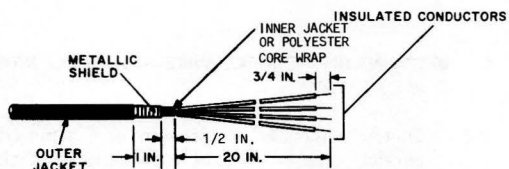
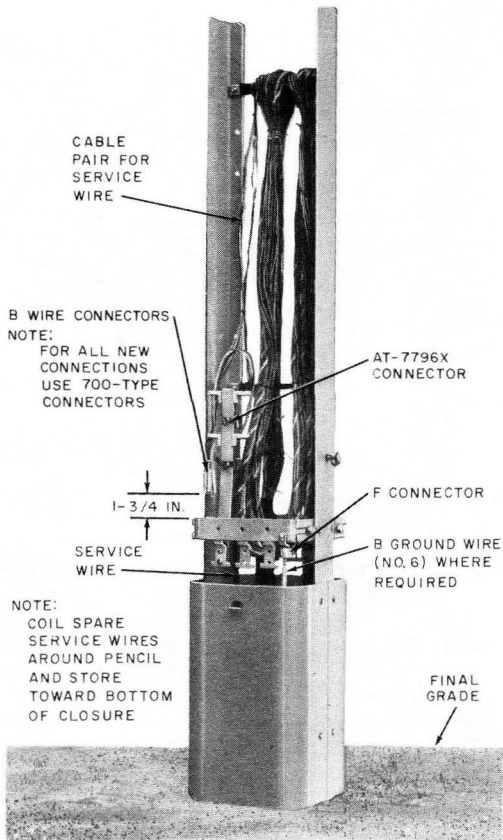

Fig. 19—♦Prepared Service Wire—LD Type Cable Closure♦
Fig. 20—Service Wire Installed—LD Type Cable Closure
5.13 Prepare the service wire as shown in Fig. 19 and terminate as shown in Fig. 20.